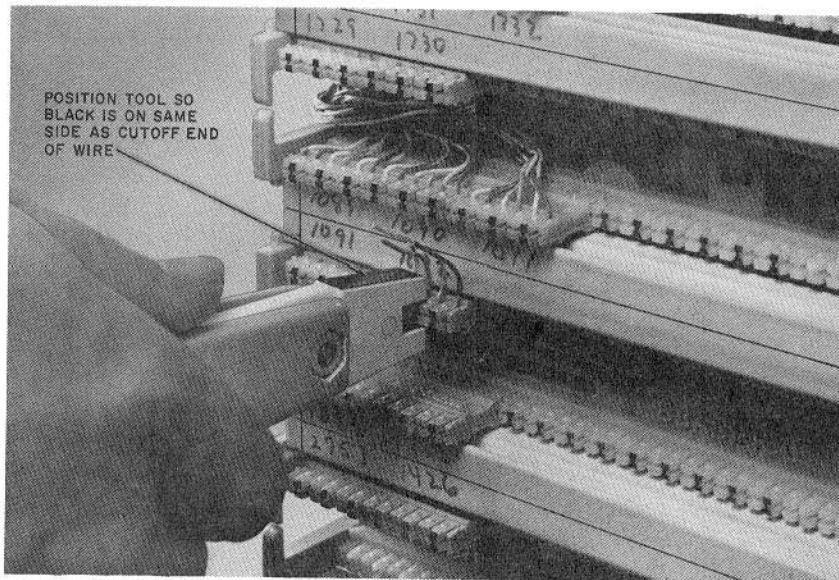

Fig. 25—Terminating Cross-Connect Wire
3.20 ♦Using the 788D4 tool with the insertion/cutoff head extended, seat and cut off the excess wire as shown in Fig. 25. **The black side of the head must face the scrap end of the wire, which may be on the top side or the bottom side of the connecting block.** The D impact tool can also be used for this operation (using the proper blade), **but the 788C1 or 788J1 should not be used.**♦